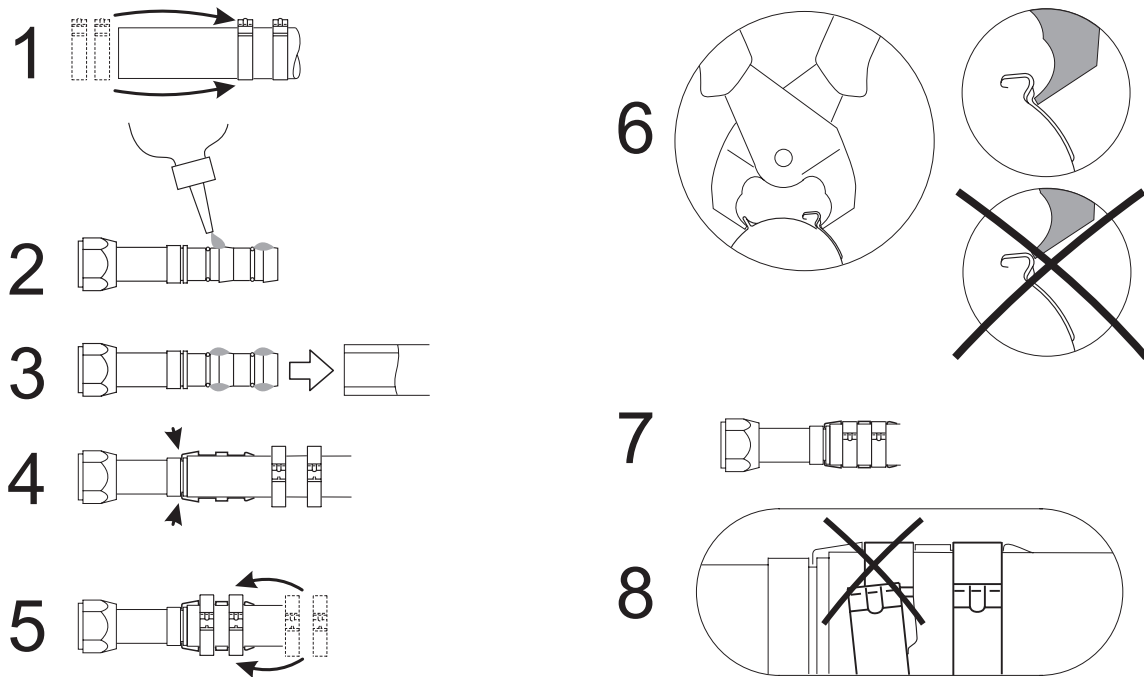

Fig. 4.4
- Insert two clips of the appropriate size to the cut end of the hose (Fig. 4.4/1). The direction of the clips has no effect on the performance of the connection. To make the installation work easier, both clips should face in the same direction.
- Coat the nipple with plenty of refrigerant (Fig. 4.4/2). This **must** be done to reduce the force required to insert the nipple.
- Fit the nipple into the hose (Fig. 4.4/3). To ensure that the nipple has been fitted properly, check the gap between the end of the hose and the nipple collar. Do not kink or otherwise damage the hose as you fit the nipple. Remove any excess oil from the nipple and hose.
- Engage the bar in the nipple groove, leave the arms of the bar pointing in the same direction as the hose (Fig. 4.4/4). If the bar is correctly installed it can be rotated relative to the nipple. The bar ensures that the clips are positioned over the O-rings and that the connection will satisfy the pressure requirements.
- Position the clips over the arms of the bar in the ducts provided (Fig. 4.4/5).
- Close the clips with the clip pliers (Fig. 4.4/7). Hold the pliers at right-angles to the clip connection points as you do so (Fig. 4.4/6). They should also be at a right-angle when you close the clips. Position the jaws of the pliers under the raised section of the clip of the interlock. To make them easier to install, the clips should be closed between the arms of the bar.
If you do not hold the pliers at right-angles to close the clips the clips' closure may be slightly out of position (Fig. 4.4/8). In this case correct the clip closure with the pliers.